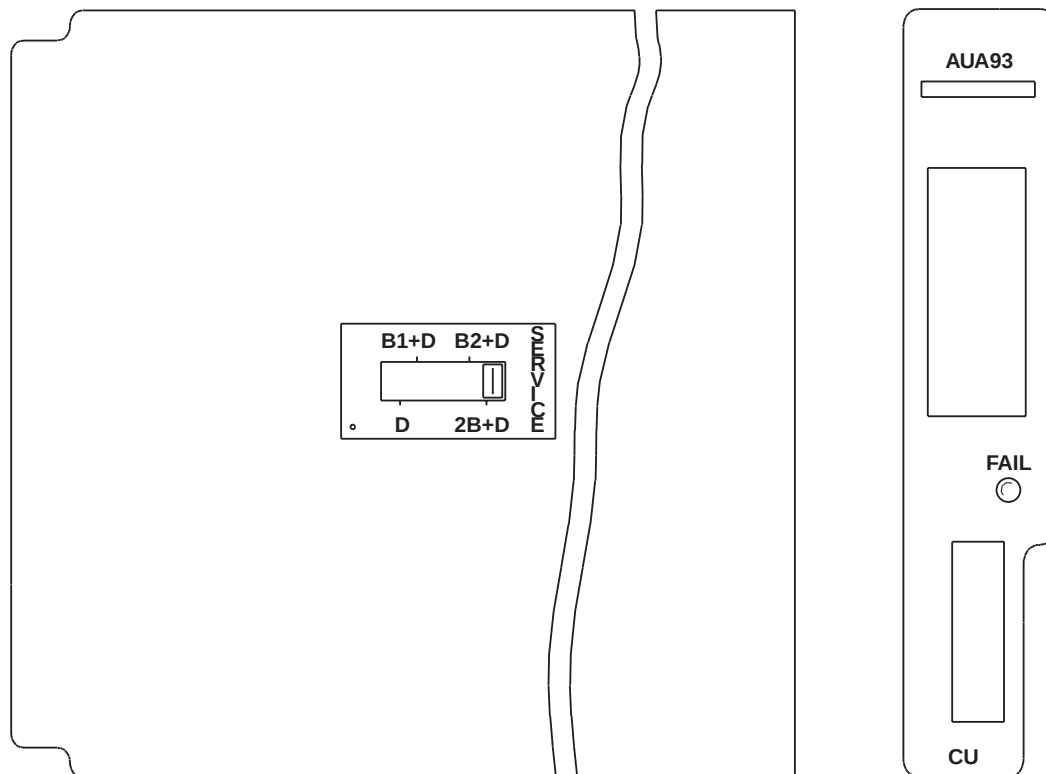

Figure 6 – AUA93 Channel Unit Option Switch Location
25. Set **SERVICE** option switch (Figure 6) to **D**, **B1+D**, **B2+D**, or **2B+D** as specified on the WORD document.